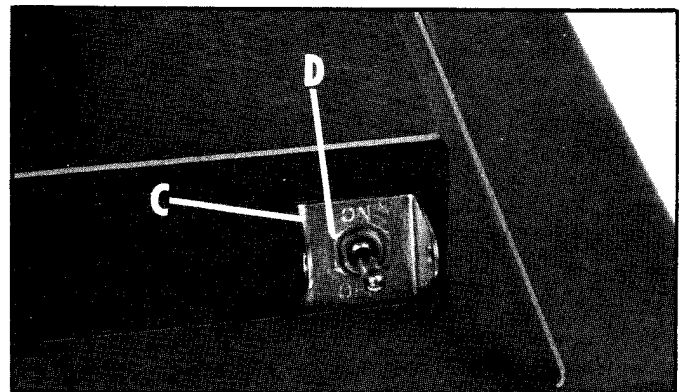

Fig. 9
4. Place the switch bracket (C) Fig. 9, on switch stem with key in switch bracket engaged with keyway in switch stem and fasten in place with hex nut (D) Fig. 9.